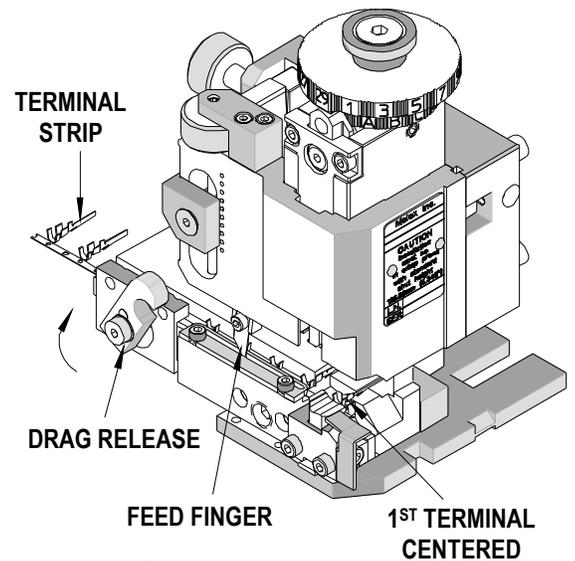

Figure 2-3
3. Rotate the drag release until the drag frame is in the upright position. This will allow the terminal to slide with ease through the applicator track. See Figure 2-3.
9. Raise feed finger and pull terminal strip back until disengaged from applicator track. See Figure.2-3. If preferred, cut the terminal carrier strip and pull it through the applicator with needle nose pliers.